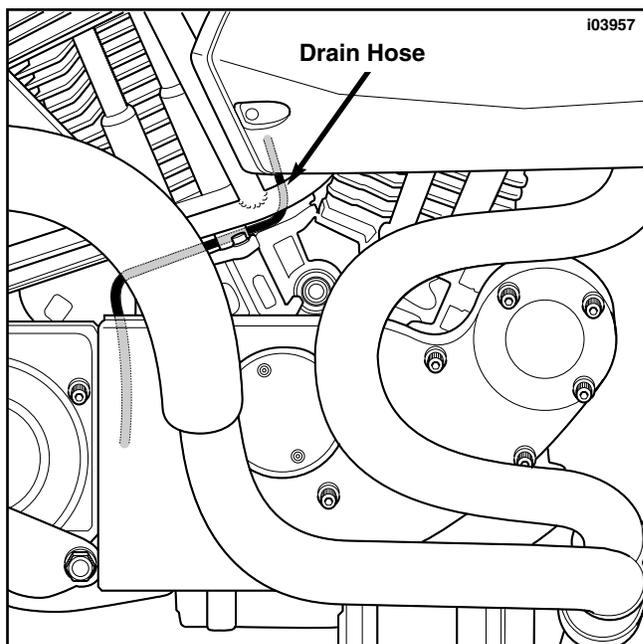

Figure 7. Routing Drain Hose (Buell)
10. See Figure 7. Route drain hose downward from drain fitting and continue towards rear wheel through the space between the engine rear cylinder and both rear cylinder push rod covers. Continue route downward between gearcase cover and engine crankcase.